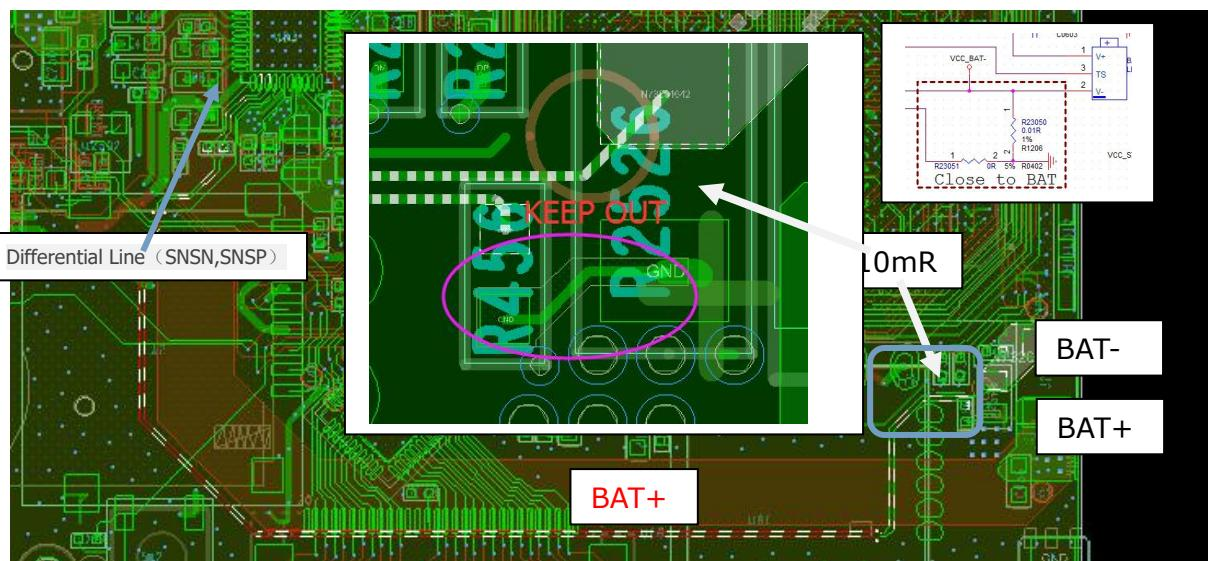

Figure 4-60 RK818-3 Current Sampling Resistor Layout
- The 10mR current sampling resistor of RK818-3 should be placed close to battery connector. The SNSN / SNSP signals should be routed according to differential pair's rules, no impedance requirements. It is important to note that since the SNSN is a negative side of the 10mR resistor, the OR resistor connected to the SNSN can not be directly connected to another GND and grounded via the ground end of the 10mR resistor (Shown as Figure 4-60).